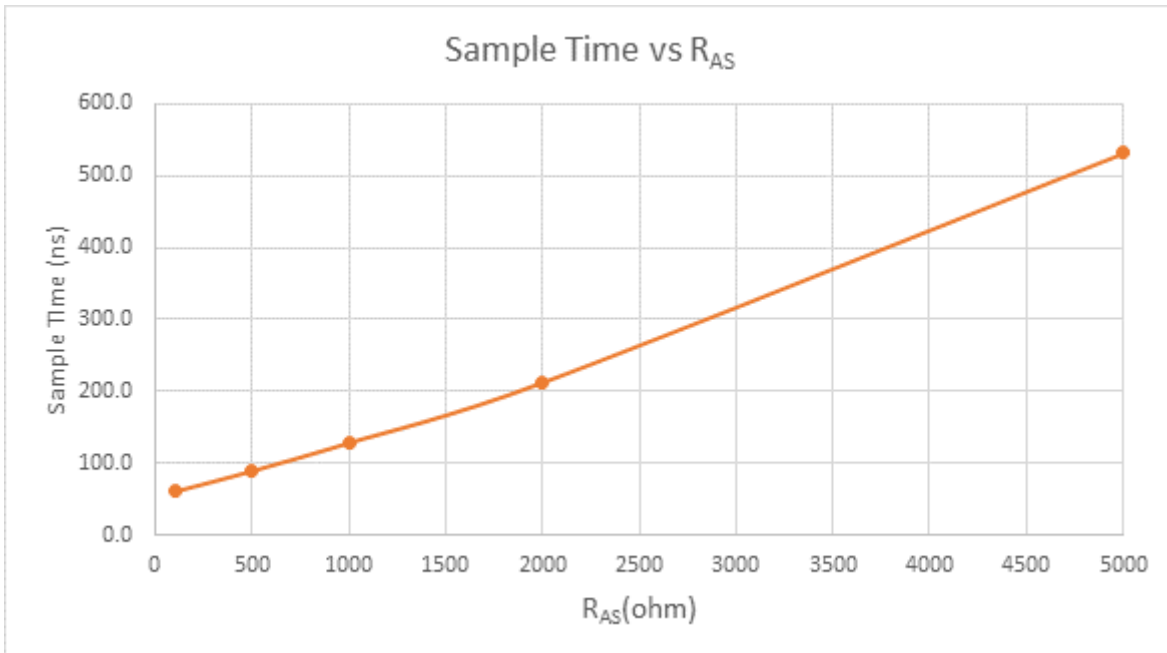

Figure 34. Sample time VS. R_{AS}
³ See Figure 34, "Sample time VS. RAS".
- ⁵ See Figure 34, "Sample time VS. RAS".